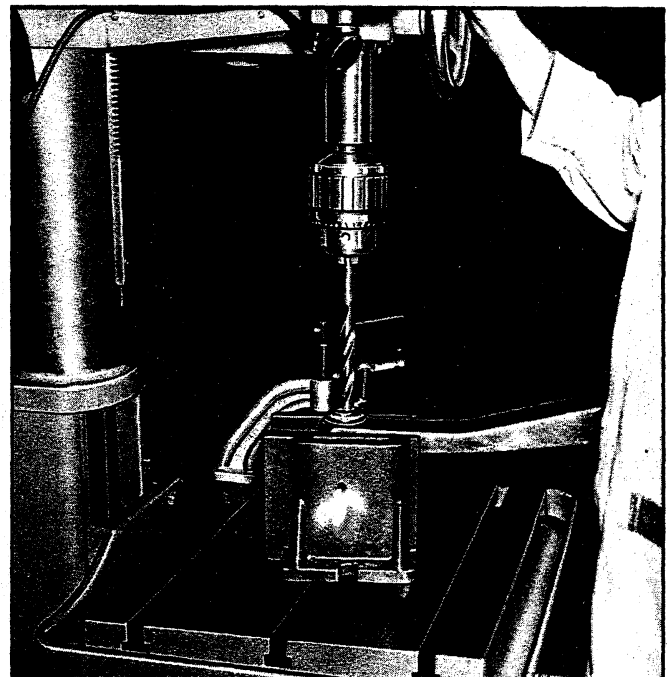

Fig. 64—Drilling Out Retainer Flare (Corvette)
1. Using 11/16" drill, drill out flared end of bushing retainer (fig. 64).